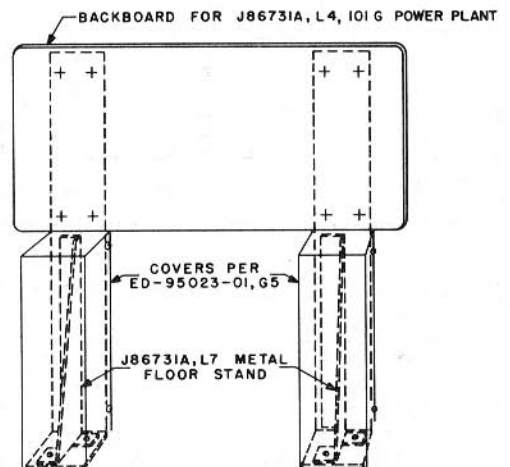

Fig. 5 — Floor Stand for J86731A, List 4, Power Plants
**3.03** The J86731A, List 7 metal stand (see Fig. 5) consists of two metal legs and is used to floor-mount the J86731A, List 4 power plant, and where appearance is important, may be enclosed with the ED-95023-01, Group 5 cover.
| J86731AList 7                                  | Metal Stand for Floor Mounting J86731A, List 4 (See Fig. 5) |            |                          |                   |                                                                    |                      |                                                                        |